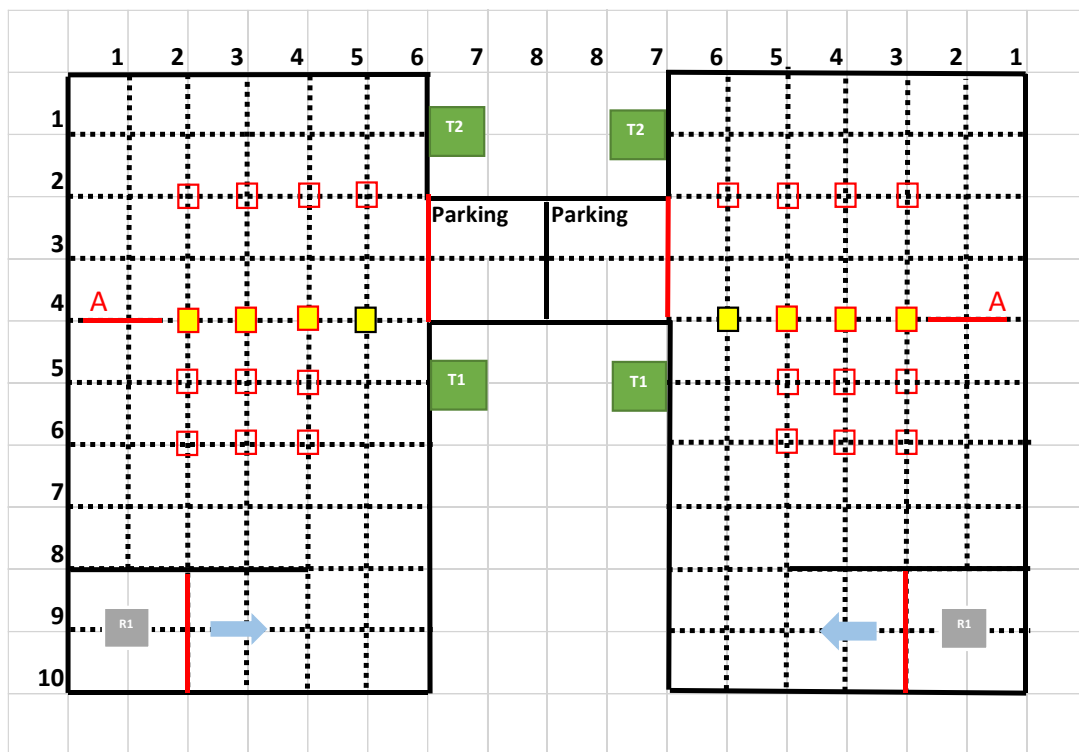

Figure 1: Contest Arena top view
The NERC 2024 theme is continuation of 2023 based on precision agriculture with focus on autonomous robots that can simulate Fruit Harvesting tasks. In this theme, there will be a robot that is acting as the harvester robot, its job is to pluck fruits from the tree. Fruits are represented with orange colored ping pong balls respectively. The first team to successfully collect all the desired fruits and reach the parking spot will be declared the winner. The Contest arena is shown in Figure 1. Details are as follow:
1. Laminated wooden sheets (lasani) are used for the construction of the arena. The floor of arena will be of white color as shown in the map (Fig. 1). All the boundary walls and separation walls have a height of 5 inches throughout the arena. The solid line made with black tape of 3cm width (Dotted Line in Fig 1) present on the floor of arena can be used for line tracking. The entire arena is divided into 12x12 inch grids.
2. The starting position and orientation of the robots are fixed. The robot must be placed behind the starting line shown in Fig. 1 with red color. The complete robot should be behind the line. The red colored line is only for reference in Fig. 1, it will be a solid black colored line on actual arena.
10. After successful collection of fruits, the robot(R1) will move towards the Parking spot as marked in the arena shown in Figure 1. However, after collecting fruit the robot must cross the highlighted region/red line on row 4 (labelled as A for reference only). The red line labelled as A in row 4 is only present in Fig 1 for reference, it will not be present on actual arena.
11. The team to successfully complete all tasks and reach the parking spot will be declared as the winner. A successful “reach” means all the parts of the robots have crossed the parking entrance line (represented with red color in Fig.1) and no part is on and above the line. The red colored line is only for reference in Fig. 1, it will be a solid black colored line on actual arena.
- Robot must cross the region/red line labelled as A (label and red line are made in Fig 1 for reference only).